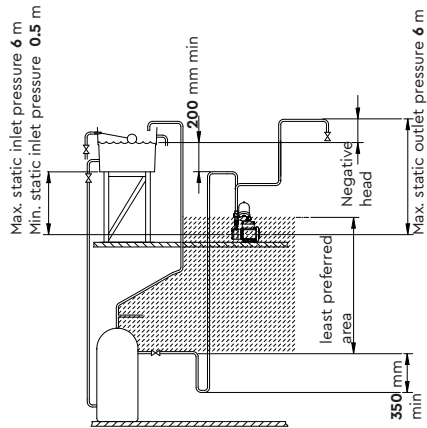

Fig. 3 – Single Pump
The use of a Stuart Side Entry (SE) cylinder flange, which should have the addition of an inverted loop ("U" bend) of 350 mm minimum drop before rising to the pump, located as close as possible to the cylinder wall. This will ensure the pump receives an air free supply and the cylinder vents any air up the vent pipe and not the pump feed (Figs. 3 & 4).